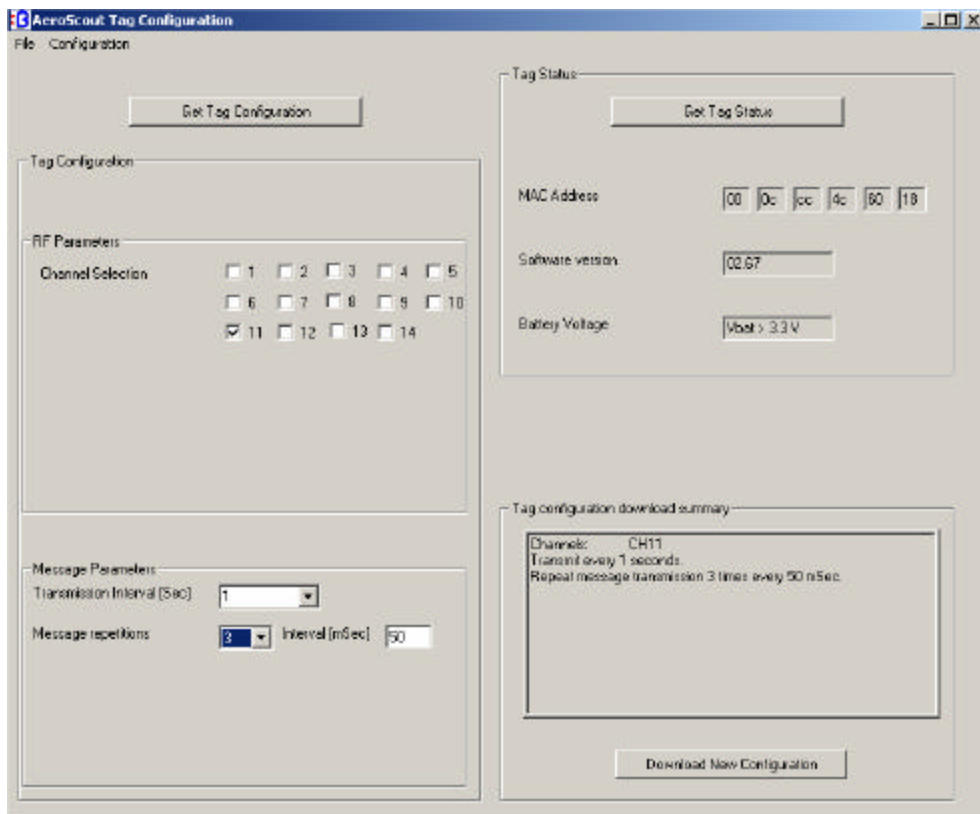

Figure 2: Tag Configuration Dialog Box
1. Select **Configuration → Tag → Tag Configuration** to open the Tag configuration application. The window shown in Figure 2: Tag Configuration Dialog Box appears.